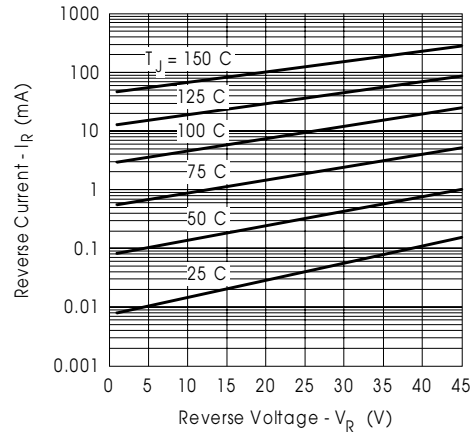

Fig. 2 - Typical Values Of Reverse Current Vs. Reverse Voltage (Per Leg)
| I_{RM} Reverse Leakage Current (Per Leg) * See Fig. 2 (1) | - 1.5 | mA | $T_J = 25^\circ\text{C}$ |